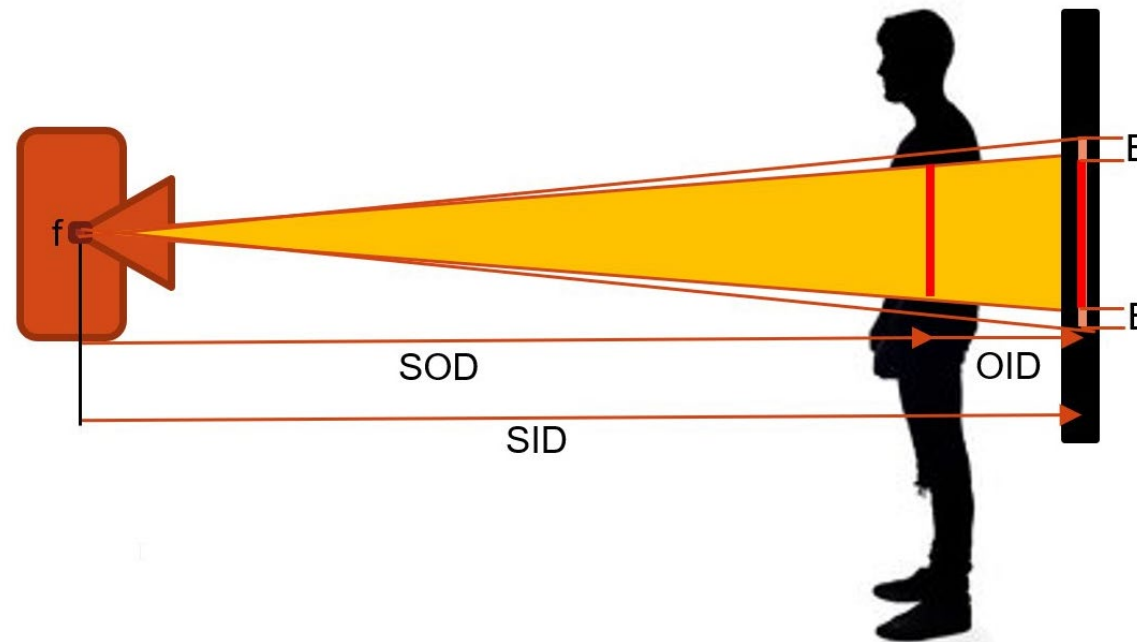

Fig. 20 – Geometrical blur (B) in conventional radiography (penumbra).
- The geometrical blur depends on the size of the focal spot, and the system geometry (Fig. 20):